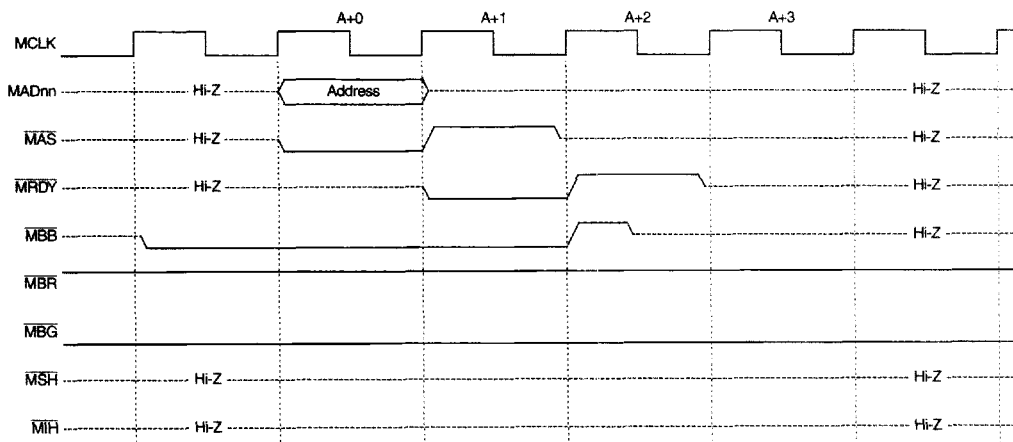

Figure 8. MBus Coherent Invalidate
A Coherent Invalidate (CI) operation can only be performed on a block (32 bytes). All CI operations will be snooped by all snooping caches. If a Coherent Invalidate operation hits in a cache, that copy will be invalidated immediately, regardless of its state. Memory is responsible for the acknowledgment of the CI transaction. *Figure 8* shows a CI operation.